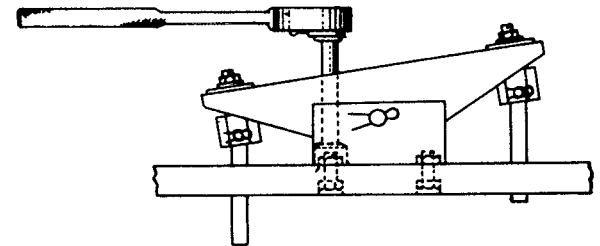

Fig. 3
- Mount interlock as shown in Fig. 3 with $\frac{3}{8}$ " hex bolt. Socket wrench may be used to tighten nuts, as shown.